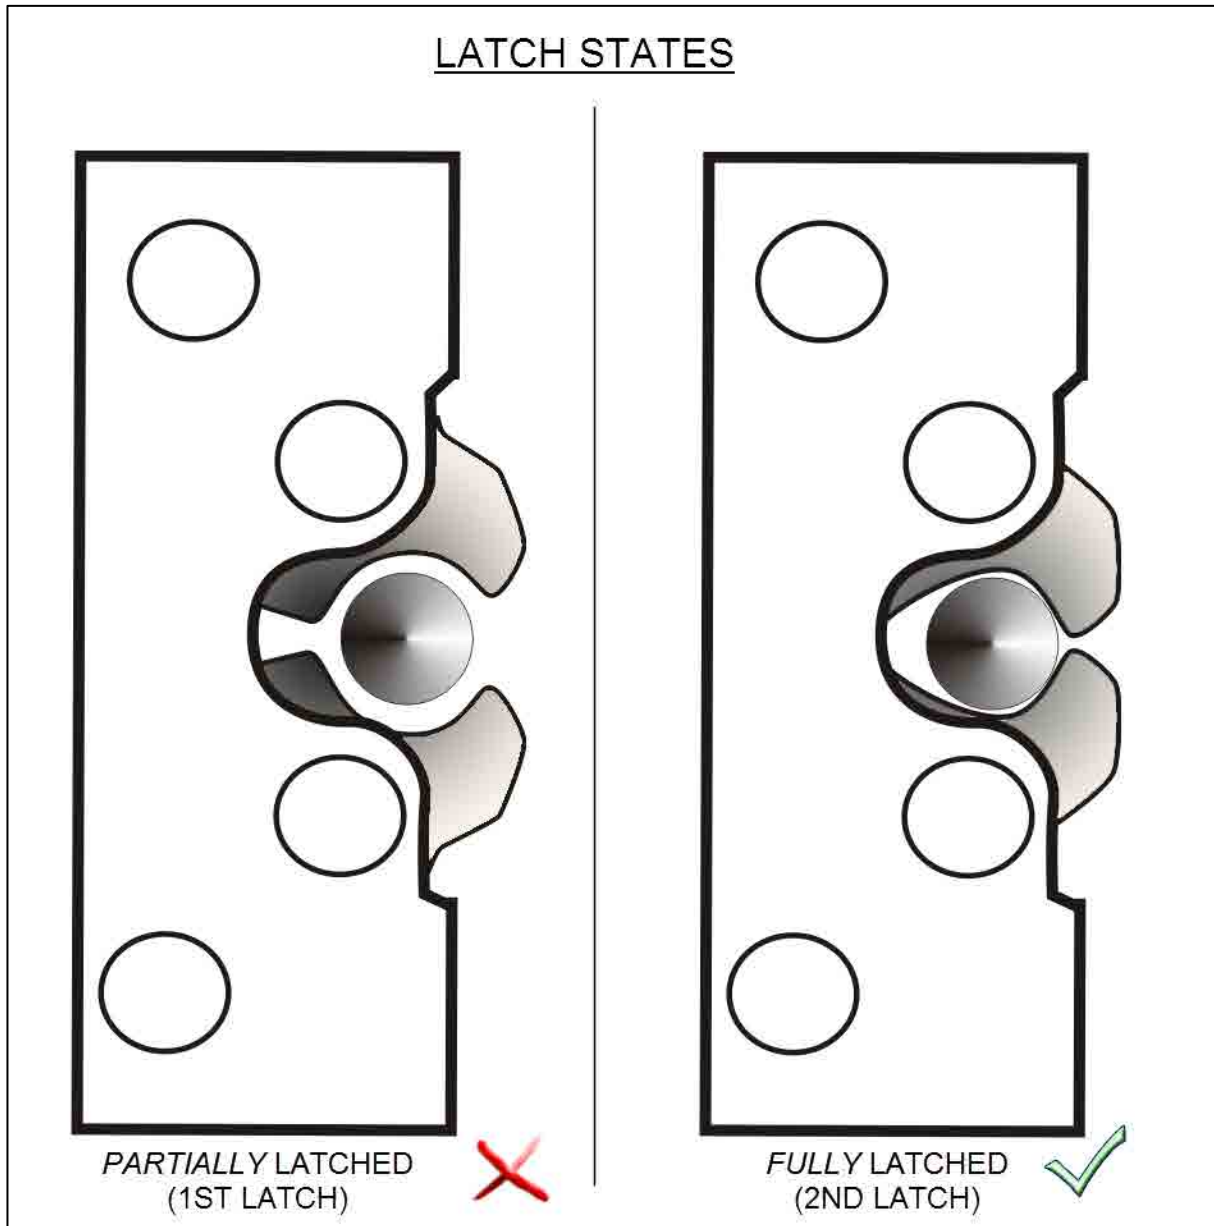

Figure 39
48. The second latch state (Figure 39) should be applied by the lock assist mechanism alone, without any operator intervention each time the door is closed. If door fails this test, return to step 34.